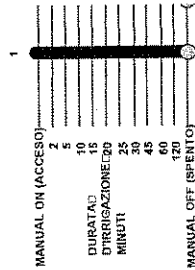

FIGURE 13: Duration Slide Switch Set to Manual Off
- Turn off any individual station or stations by moving the watering duration slide switch to the **MANUAL OFF** position (fully down). [See Figure 13.]